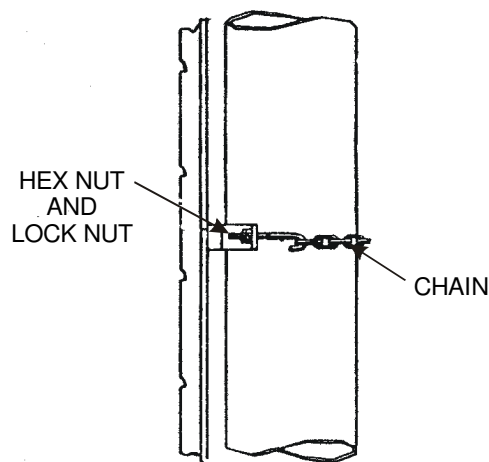

FIGURE 8
p. WRAP-AROUND POLE BRACKETS are furnished to attach the carrier rail to any type of pole. See figure 8. It is adaptable to various pole sizes from 6 to 15 inches in diameter. The recommended spacing between brackets is 50" (4 feet 2 inches) or at every fifth bolt position with one bracket at the top of each section. The top bracket should be attached at the second bolt position from the top. After raising the rail, the chain is wrapped tightly around the pole and held by a slot in the bracket. Finish attaching each assembly by tightening the hex nut and lock nut on the "J" bolts.